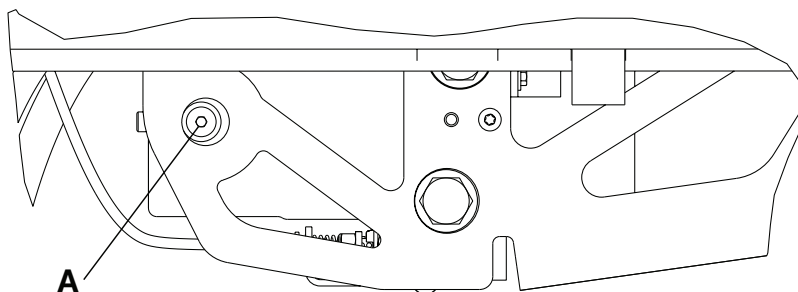

Figure 9 – Hydraulic assembly reservoir
3. Using a 3/16" hex wrench, remove the port plug (A) (Figure 9). Save the port plug.